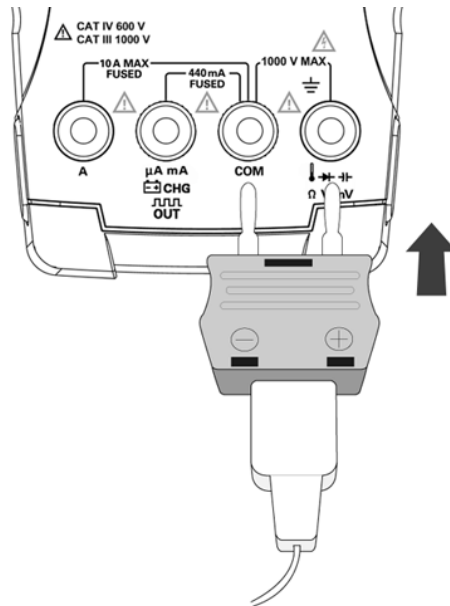

Figure 2-14 Connecting the probe with adapter into the multimeter
- 3 Connect the thermal probe with the adapter into the meter input terminals as shown in Figure 2-14.